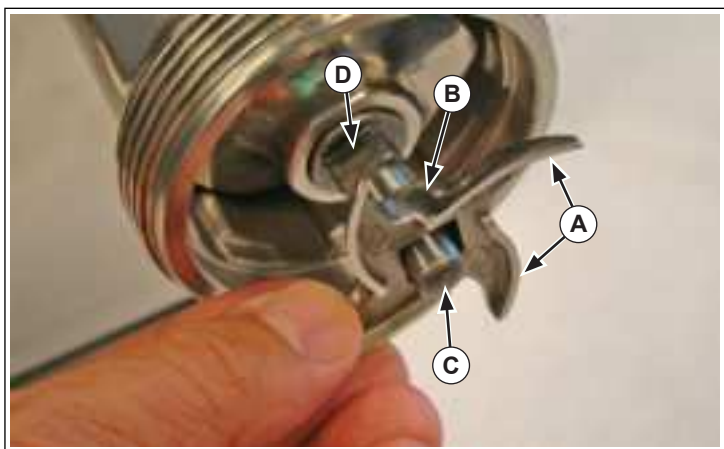

Figure 4. Knife Blade and Blade Shaft
7. Slide the worm gear assembly (B) and the shaft washer (A) into the grinder chamber (C). Slide the worm gear shaft (D) in until it is seated fully.
8. Slide the knife blade (B) so that the flat ground edges (A) face to the outside as shown, onto the blade shaft (C). See Figure 4.